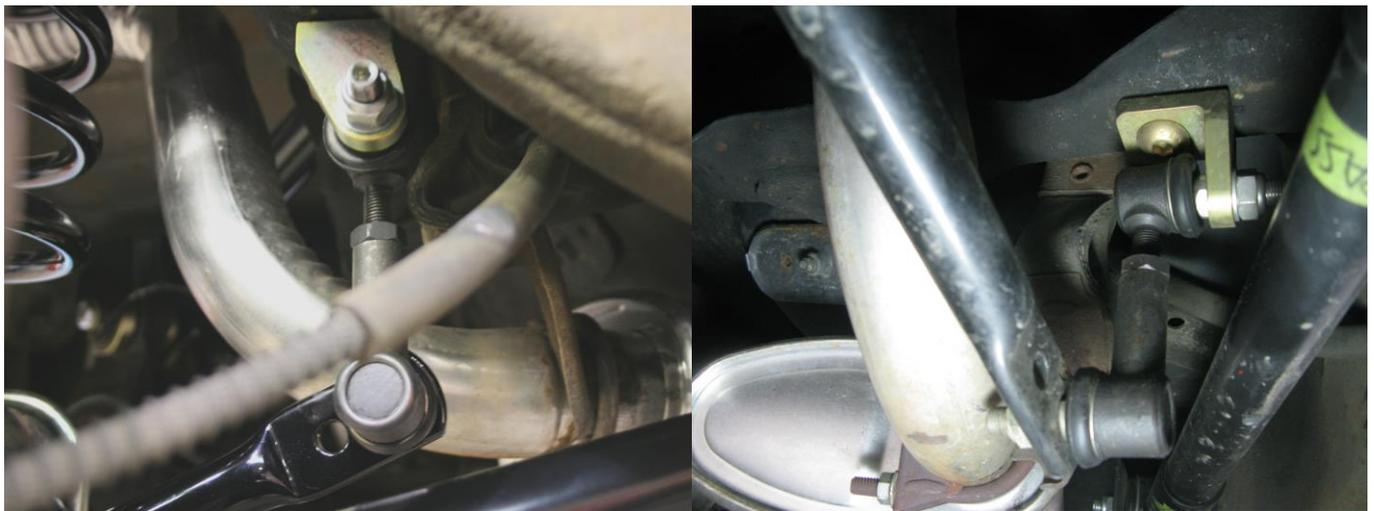

Figure 2 - Upper Mounting Bracket Orientation (Passenger Side Shown)
3. Install the upper link mount brackets on the crossmember. See Figure 2 for reference on the correct placement of the bracket. The mount points to the front of the car and the vertical bend to the outside of the car. Use the provided $\frac{3}{8}$ " - 24 x $1\frac{1}{4}$ " Hex Head Bolts inserted from the bottom along with the $\frac{3}{8}$ " - 24 Nyloc Nut and $\frac{3}{8}$ " AN washer. Torque these bolts to 35 ft-lbs.